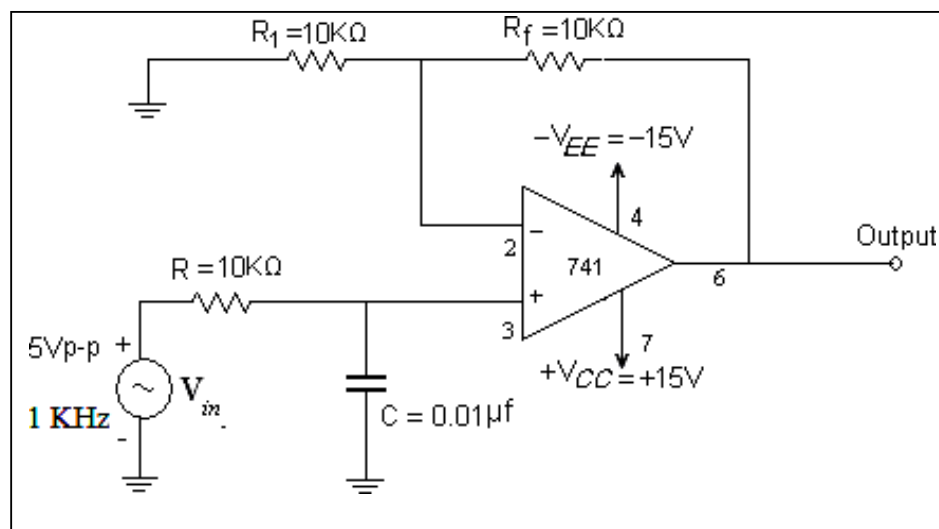

Fig 1 First Order Low Pass Filter Circuit
1. Connections are made as per the circuit diagram shown in Fig 1.